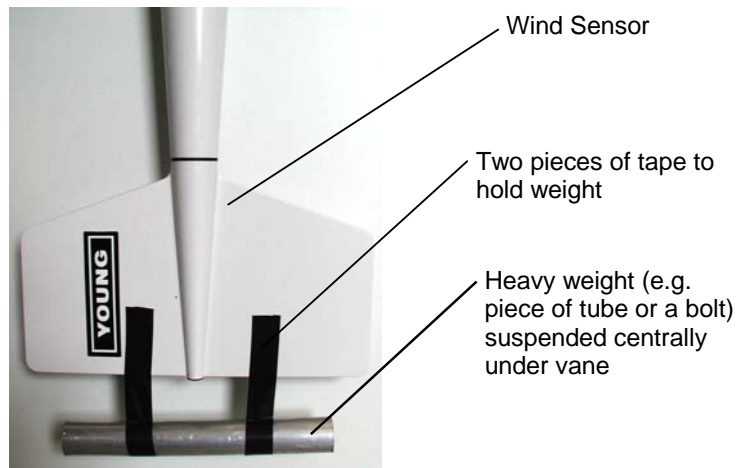

Figure 2-5 Weighting the Wind Sensor Perpendicular to the Ground
6. Weight the fin of the wind sensor, by attaching a weight of some kind, so that it is held perpendicular to the ground. A makeshift weight might be a heavy bolt attached to the fin by two strips of adhesive insulating tape – see Figure 2-5.